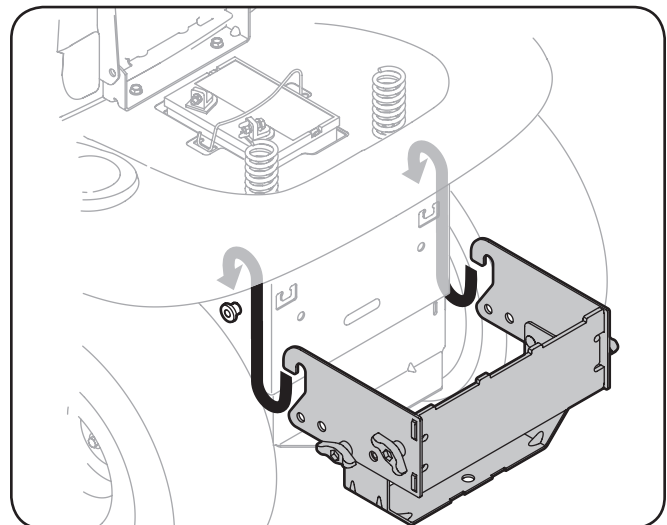

Figure 4-3
1. Place the hooked ends of the mounting assembly over the shoulder bolts, as in Figure 4-3, on the tractor and line up the hitch support bracket center hole with the hole on the tractor's hitch.